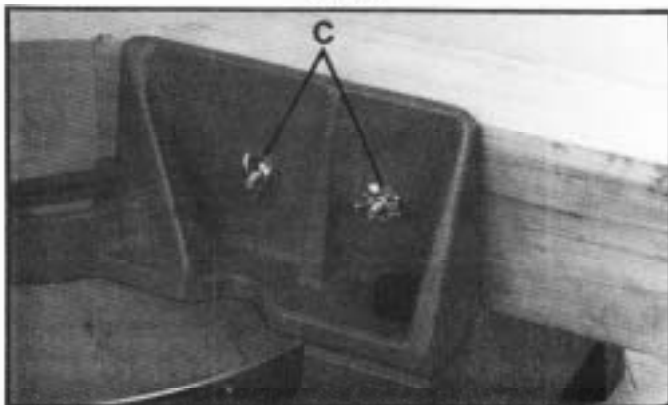

Fig. 50
Then attach the filler blocks to the fence using wood screws (C) through the two holes provided on each fence half, as shown in Fig. 50. This enables you to easily remove the filler blocks when not in use and quickly reassemble them to the fence when needed.